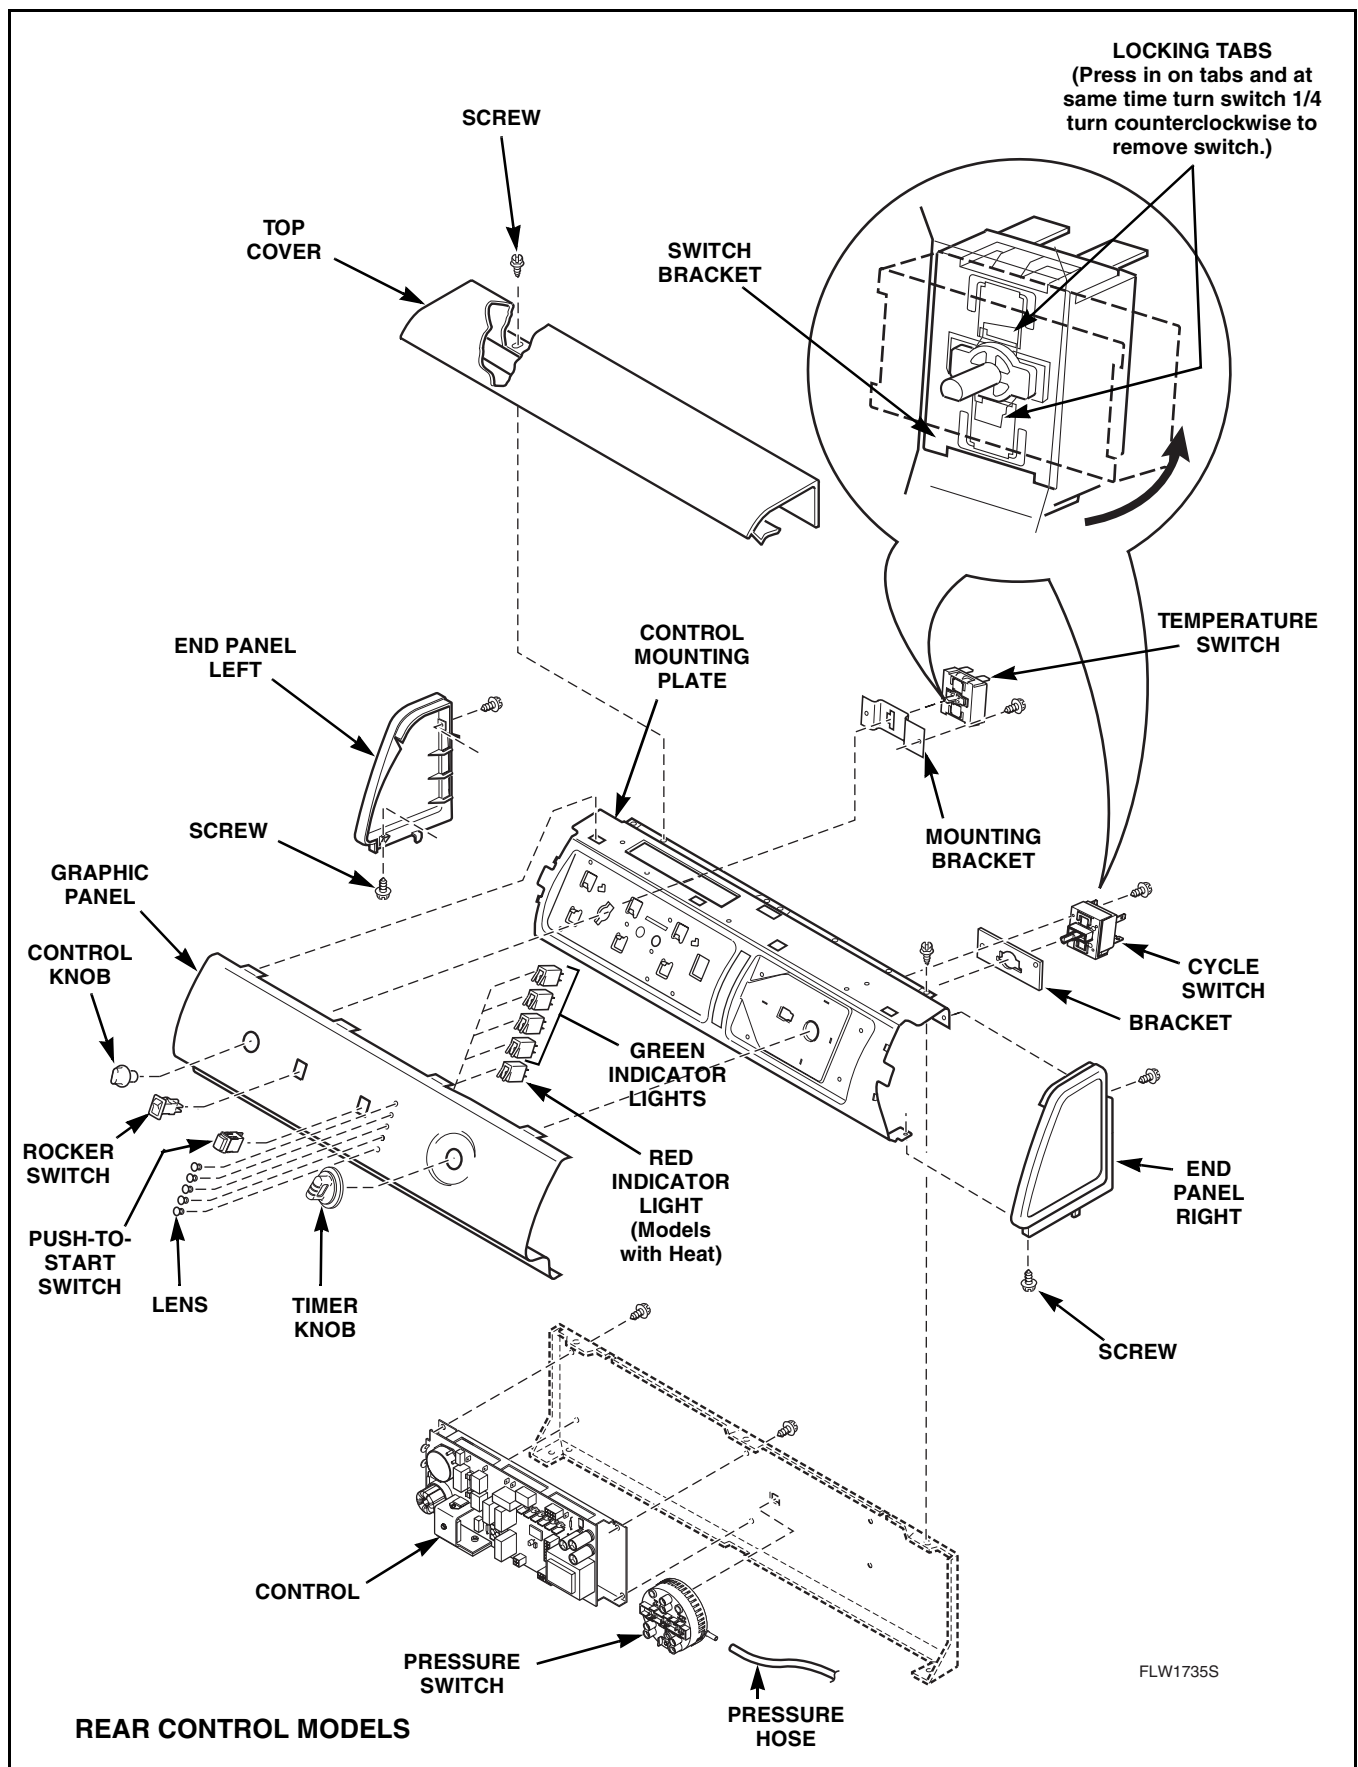

Figure 8
Remove two screws holding each end panel to control mounting plate. Refer to *Figure 8*.
- a. Remove timer knob from cycle switch shaft. Refer to *Figure 8*.
- e. Refer to *Figure 8* for switch removal.
- f. Press in on two locking tabs and at the same time turn switch 1/4 turn counterclockwise to remove switch from switch bracket. Refer to *Figure 8*.
- d. Refer to *Figure 8* for switch removal.
- e. Press in on two locking tabs and at the same time turn switch 1/4 turn counterclockwise to remove switch from switch bracket. Refer to *Figure 8*.
- d. Remove four screws holding control to control hood rear panel. Refer to *Figure 8*.